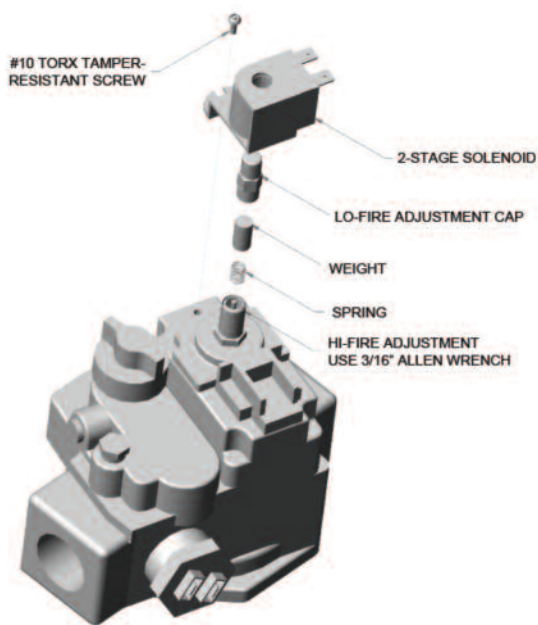

Fig. 35: Gas Valve Adjustment (Invensys Valve)
2. Locate and remove the Torx tamper resistant screw. (Shown in Fig. 35)